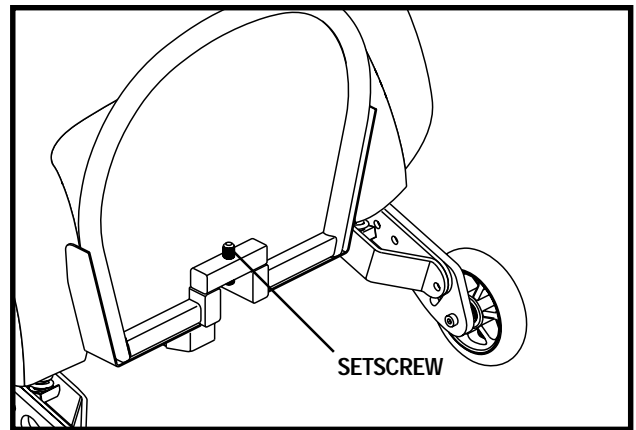

Figure 15. Foot Platform Angle Adjustment
1. Locate the setscrew on the underside of the foot platform. See figure 15.